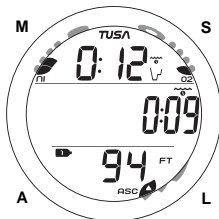

Fig. 64 - NO DECO MAIN
**NORM No Deco Main**, information includes (Fig. 64) -